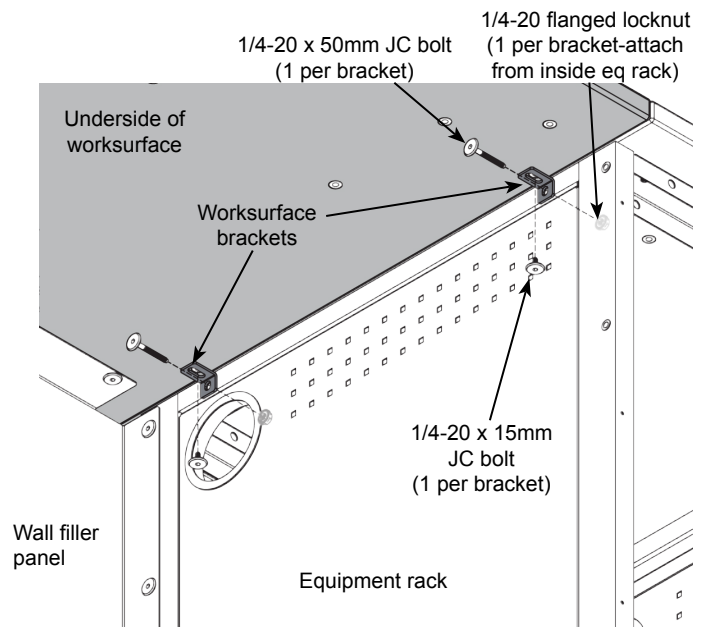

Figure 7C
1. Attach each worksurface bracket to the equipment rack with (1) 1/4-20 x 50mm JC bolt and (1) 1/4-20 serrated flanged locknut (*attached from inside eq rack*). (The slotted side of the bracket will attach to the worksurface.) Do not tighten completely. **Figure 7C.**